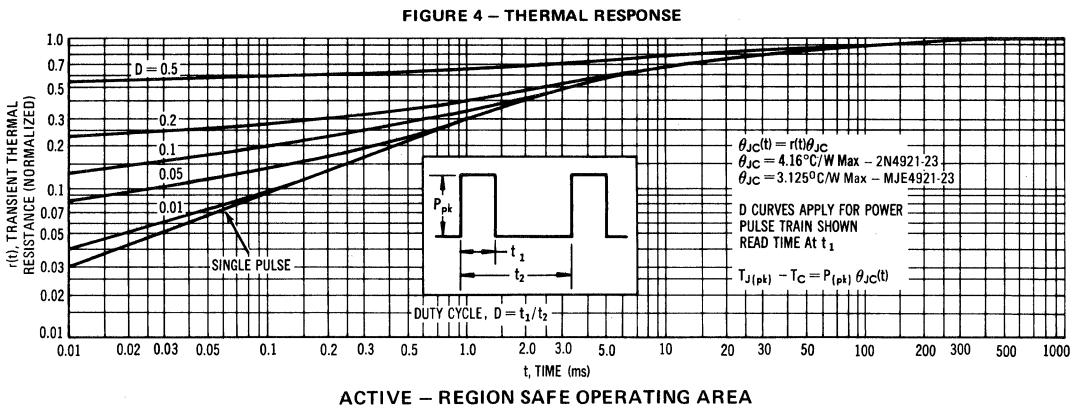

FIGURE 5 – 2N4921 thru 2N4923
(1) The 1.0 Amp maximum I_C value is based upon JEDEC current gain requirements. The 3.0 Amp maximum value is based upon actual current-handling capability of the device (see Figures 5 and 6).
Safe Area Curves are indicated by Figures 5 and 6. All limits are applicable and must be observed
The data of Figures 5 and 6 is based on $T_{J(pk)} = 150^\circ\text{C}$; T_C is variable depending on conditions. Second breakdown pulse limits are valid for duty cycles to 10% provided $T_{J(pk)} \leqslant 150^\circ\text{C}$. At high case temperatures, thermal limitations will reduce the power that can be handled to values less than the limitations imposed by second breakdown. (See AN-415)